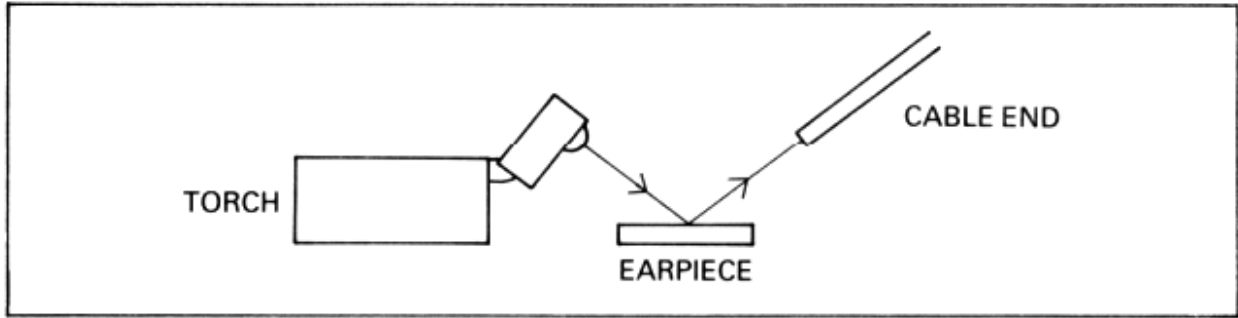

Figure 2. *Reflecting Diaphragm Transmitter*
3. Connect the shorter optical cable to the receiver, and position the torch, earpiece and cable end as in Figure 2.